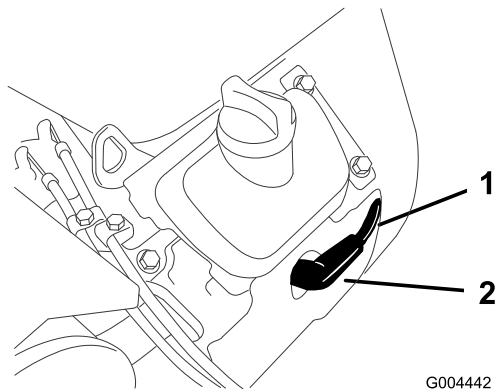

Figure 43
3. Pull the wire(s) off the spark plug(s) (Figure 43). Now clean around the spark plug(s) to prevent dirt from falling into the engine and potentially causing damage.
3. Push the wire(s) onto the spark plug(s) (Figure 43).